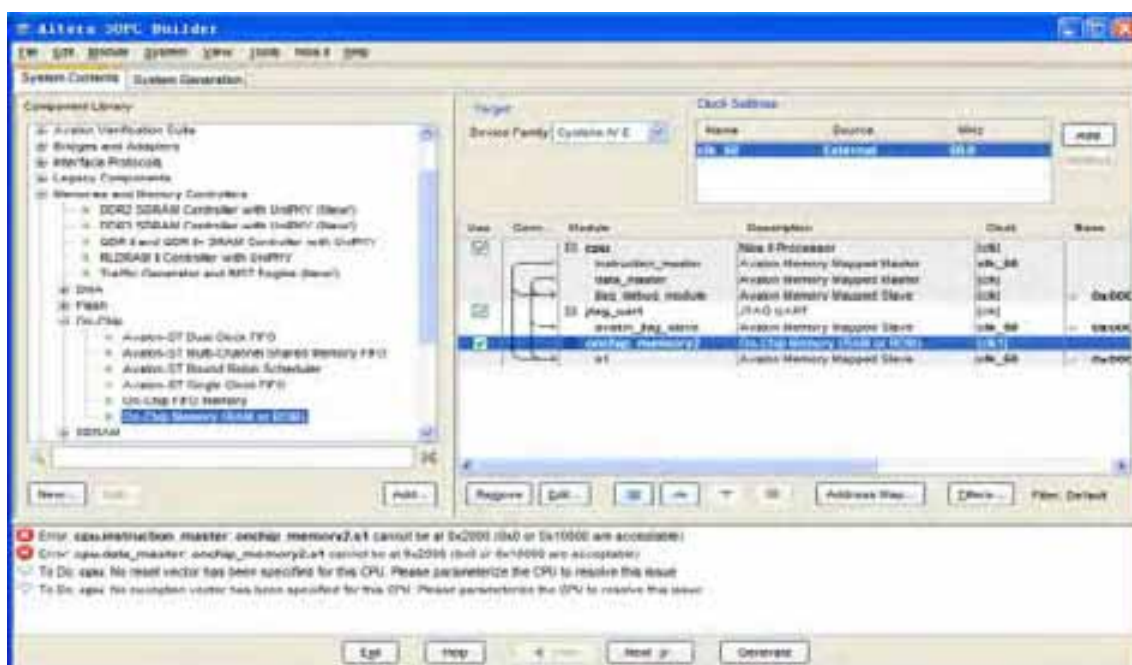

Figure 7-27 Rename On-Chip memory
17. Rename **onchip_memory2_0** to **onchip_memory2** as shown in Figure 7-27.